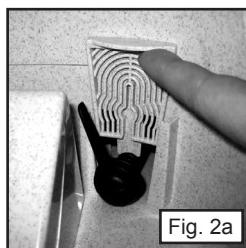

Fig. 2a
- 4) Remove the pre-filter by gently pulling up on the top lip of the pre-filter and wash with soap and water. (Fig. 2a)